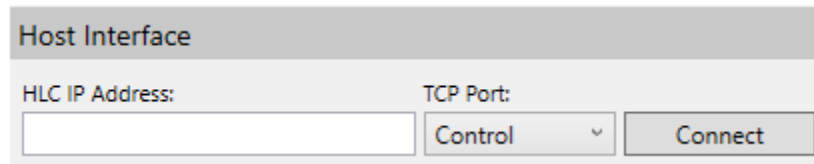

Figure 2-10: Host Interface Section on Startup
This section describes how to connect the NCHost TCP Interface Utility to the transport system to test operation and/or monitor system status. Both Control and Status sessions are configured through the **Host Interface** section (see Figure 2-10) by selecting the appropriate TCP Port. See Host Interface on page 146 for detailed descriptions of all items. Both the HLC and the computer running the NCHost TCP Interface Utility must be on the same network.
1. To control transport system operation for testing, select **Control** from the **TCP Port** menu in the **Host Interface** section (see Figure 2-10).
1. To monitor transport system operation, select **Status** from the **TCP Port** menu in the **Host Interface** section (see Figure 2-10).